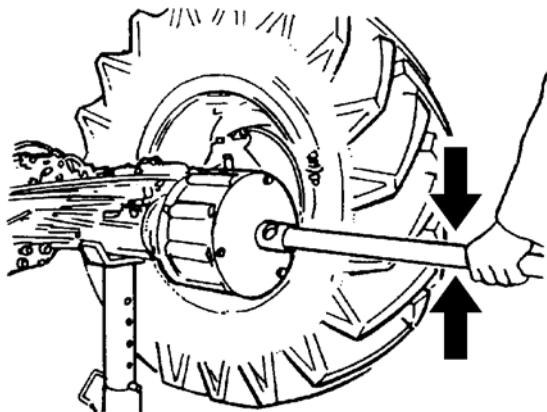

Figure 233 - Front Axle Torque Ball - Adjustment Check
- (2) Fit the retaining plate (Table 2, Item 21) to the front axle torque ball housing and tighten the securing bolts uniformly to 60 Nm.
- (3) Insert the 750 mm extension bar (Table 2, Item 22) into the retaining plate and measure the force on the extension bar with a spring balance (Fig 233).